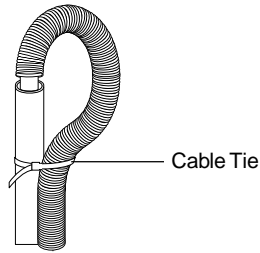

Figure 3
C. Secure the hose as shown in Figures 3 Standpipe, 4 Tub, 5 In wall standpipe.